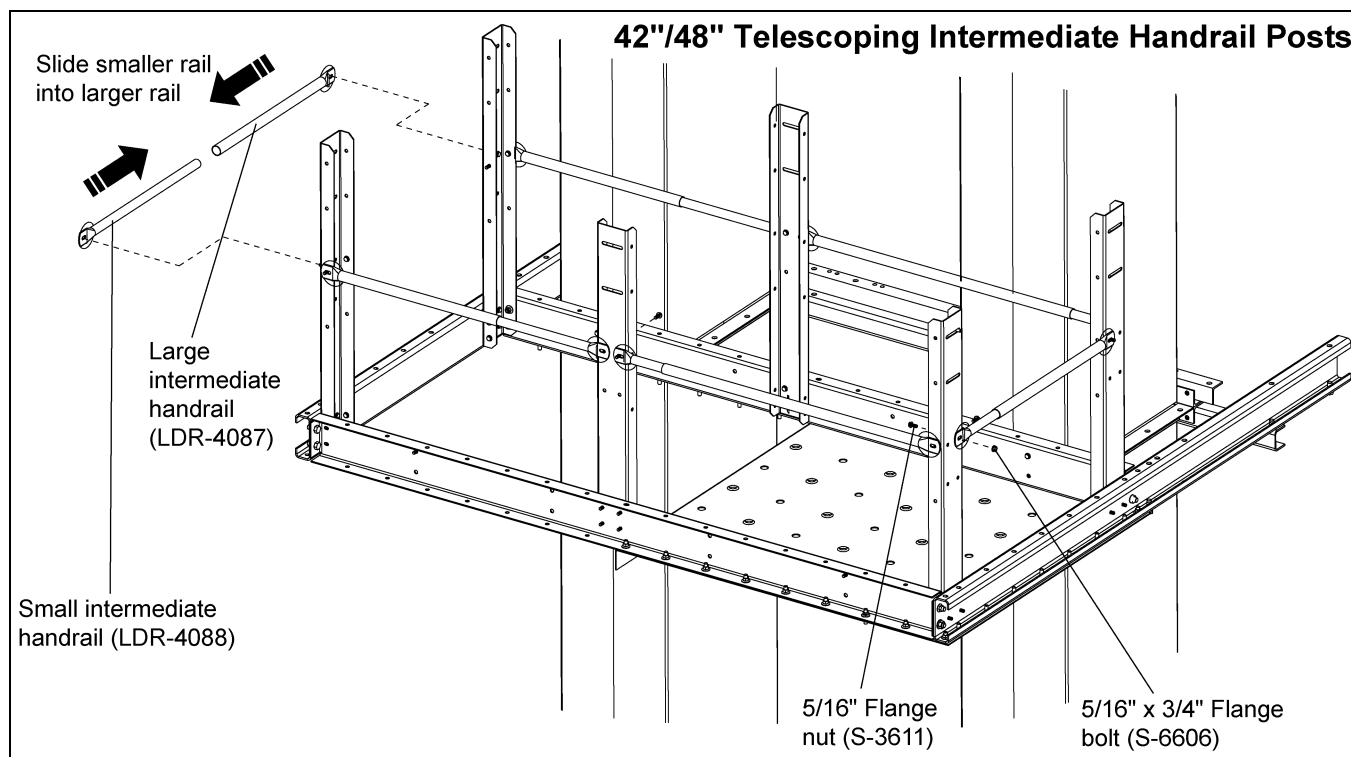

Figure 7L 42\"/>
2. Fasten the intermediate handrails to the posts using 5/16" x 1" HHCS bolt (S-7470) and 5/16" flange nuts (S-3611). (See Figure 7L.)